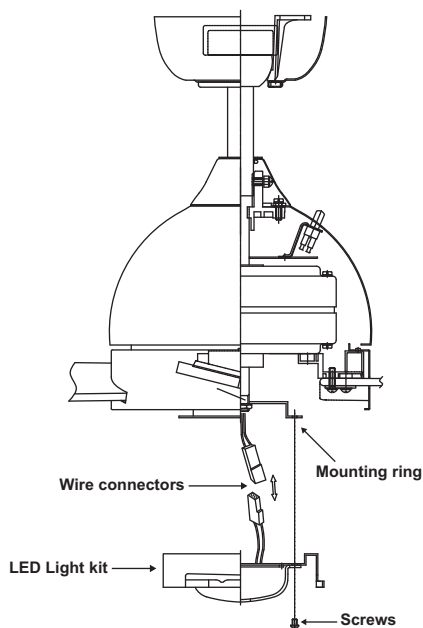

Figure 15
Step 3. Place the key holes in the LED light kit over the two mounting screws previously loosened from the mounting ring. Turn the light kit until the light kit locks in place at the narrow section of the key holes. Secure by tightening the two light kit mounting screws previously loosened and the one previously removed. (Fig. 15)